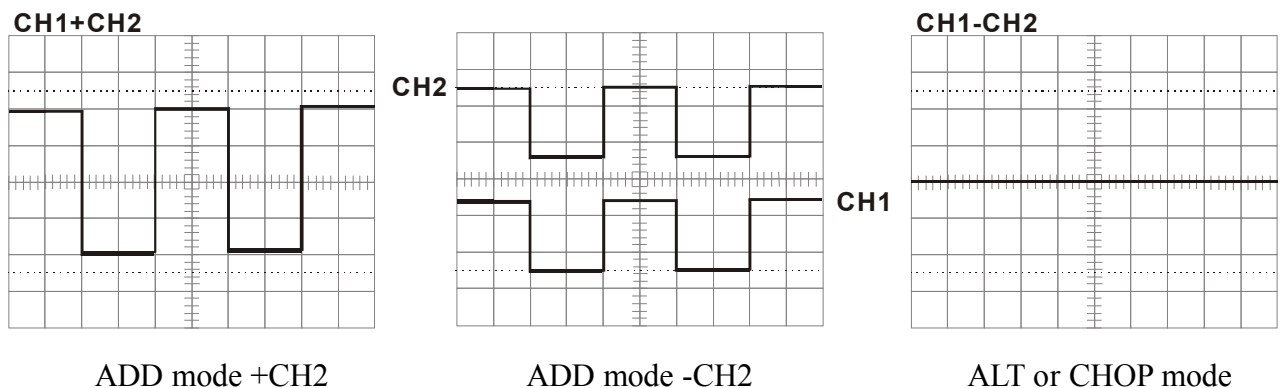

Fig 4-6
- (1) Set Vert Mode at “ALT” or “CHOP” according to the frequency of the signals. Don't pull CH2 INVERT which means CH2 is positive.
- (2) Connect the 2 signals to CH1 and CH2 input terminals.
- (3) Adjust VOLT/DIV let the 2 signals showing waveform at proper range. Adjust vertical position, let the 2 waveforms shown at the center of the screen.
- (4) Set vert mode to “ADD”, algebraic summation of 2 signals will be shown immediately. If the difference need to be known, pull CH2 INVERT. Fig 4-6 shows the sum and difference of 2 signals.